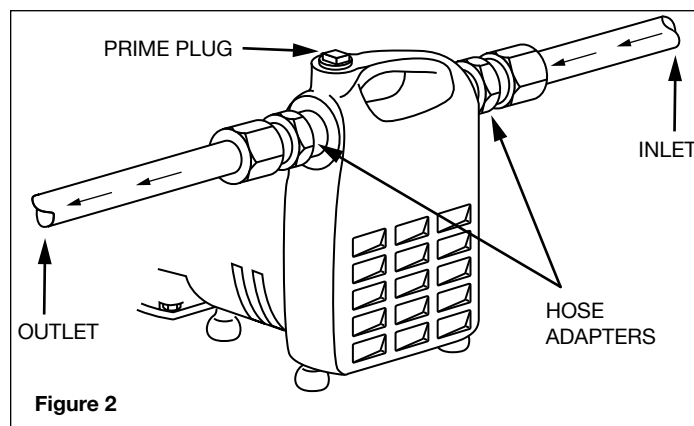

Figure 2
- Figure 2 shows a typical installation. Threaded adapters are furnished for attaching garden hose where conditions permit its use. In no case should the pump be more than 15 feet above or away from water source. Install a foot valve when suction lift is over 10 feet or when suction line is over 10 feet long.